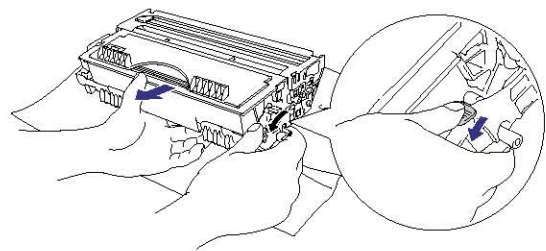

Fig. 5-1
- (1) Open the front cover of the printer and pull out the drum unit.
- (2) Place the drum unit on a flat, horizontal surface and remove the toner cartridge from the drum unit while pushing the lock lever down with your right hand. (Fig. 5-1)
- (3) Unpack the new drum unit.